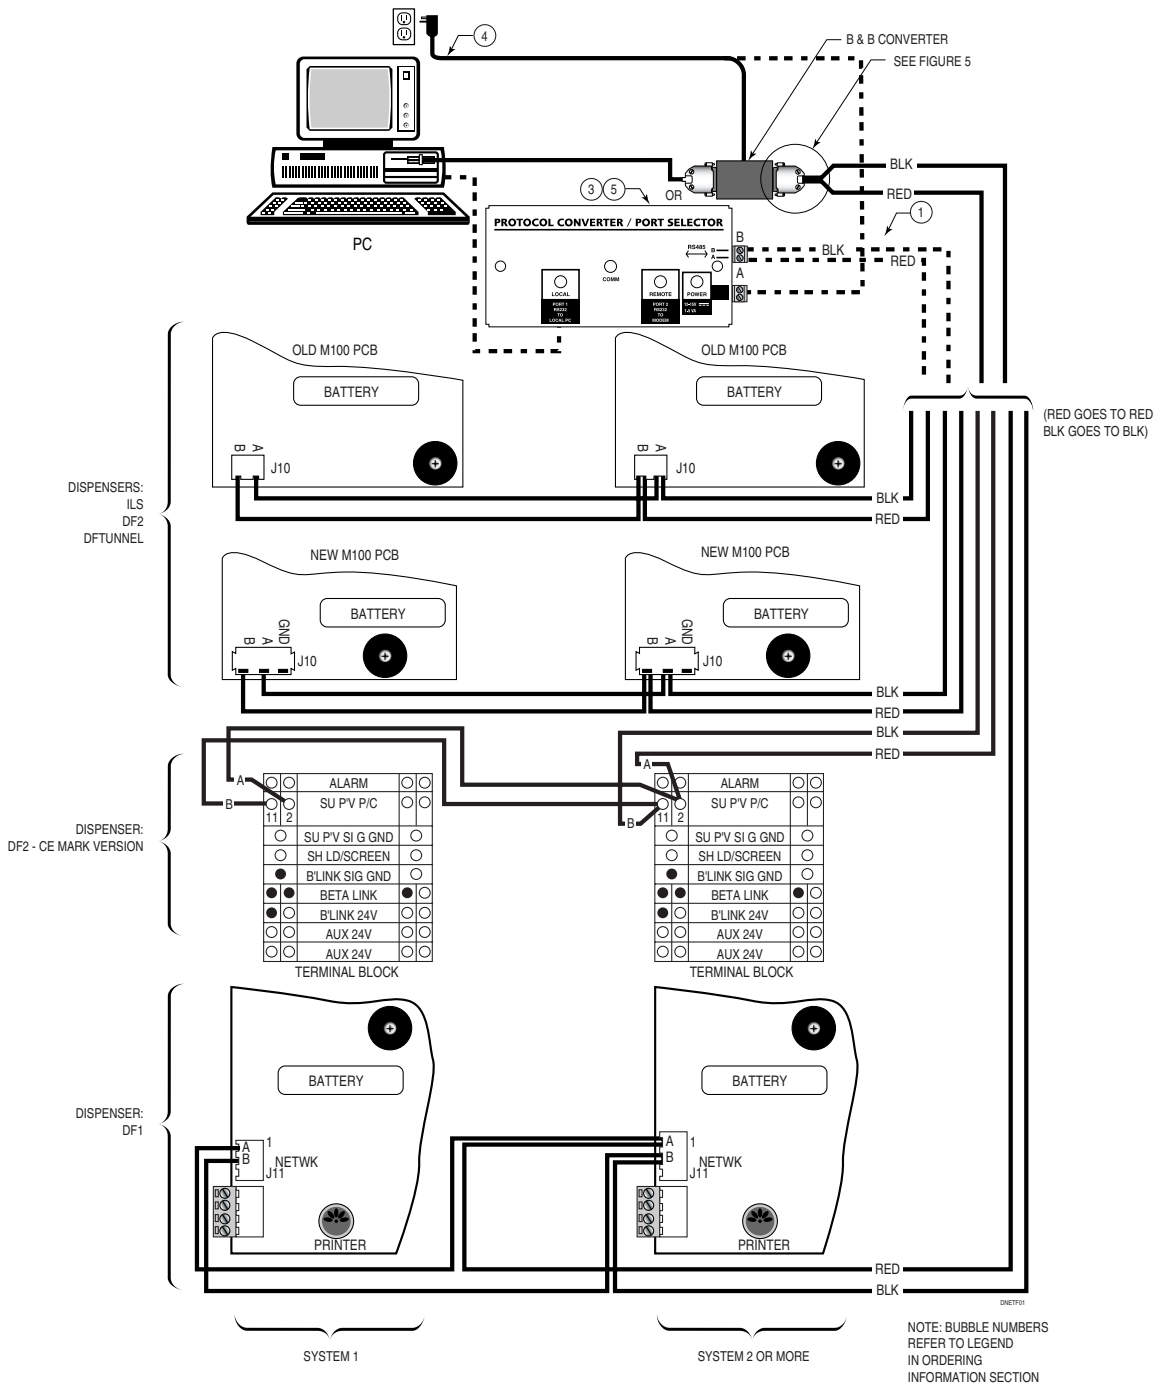

Figure 1. Dispenser Network Connections
1. The RS-485 connection provides the basis for communication between the dispensers and the PC. The ILS is manufactured with the RS-485 connection wired directly from J10 on the Model 100 PCB to a 5-pin DIN connector on the front panel. If this is the case, remove this connection before wiring the dispensers together. Other dispensers have the Model 100 PCB's RS-485 port available at a terminal block. See **Figure 1** to locate your dispenser's network connection. **Figure 1** shows a dispenser network with four styles of dispenser. It also illustrates the RS-485 to RS-232 conversion using both the B & B Converter and the Protocol Converter/Port Selector.